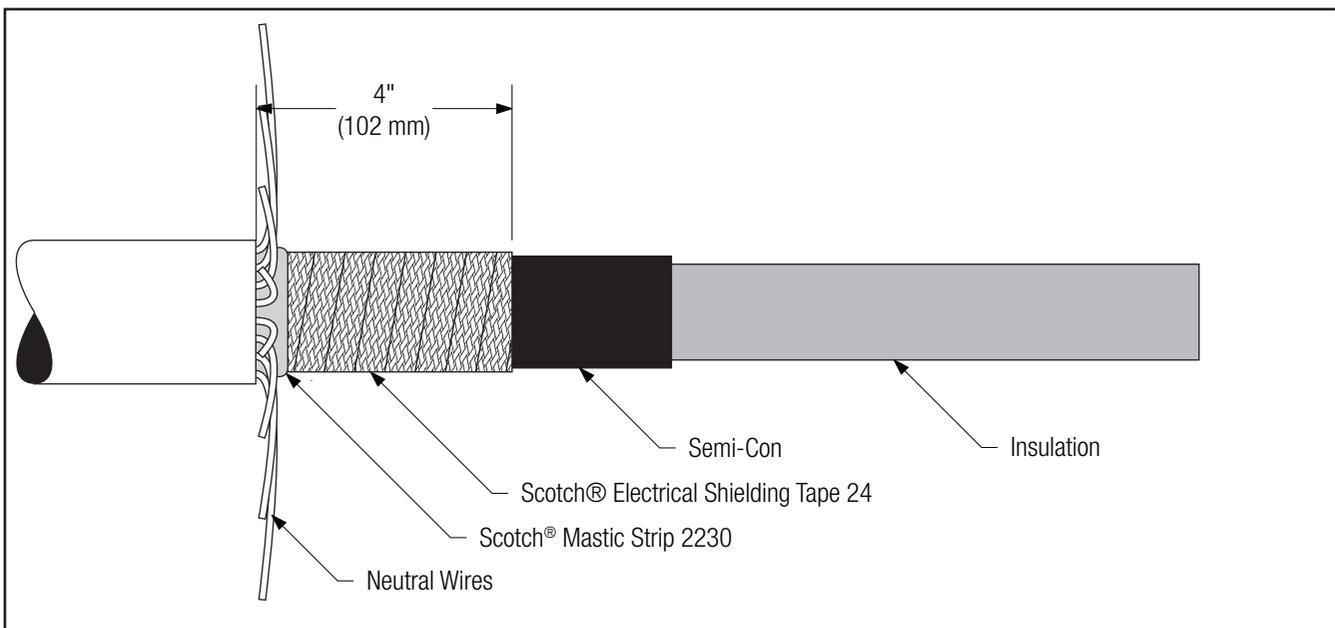

Figure 3
**2.5 If using JCN or Flat Strap Cable:** Mark the cable semi-con 4" (102 mm) from the cable jacket edge. Apply two half-lapped layers of Scotch® Electrical Shielding Tape 24 over the cable semi-con, starting from the mastic edge out to the mark on the semi-con and back. Half-hitch to tie off (*Figure 3*).